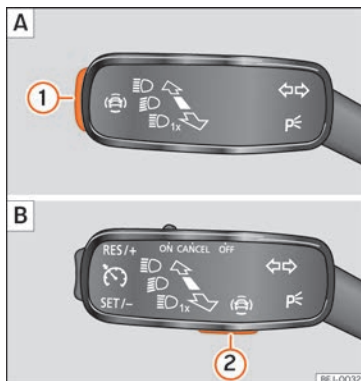

Fig. 134 On the turn light and main beam lever: key for driver assistance systems (depending on the version).
- Press » **Fig. 134** ① or ② briefly to open the **Driving aids** menu.